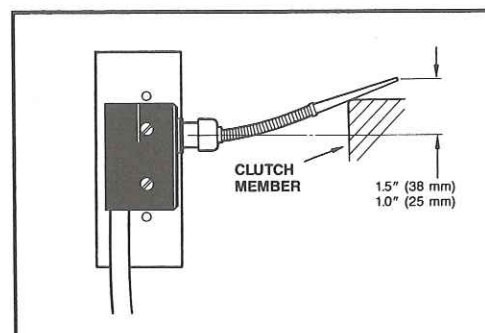

Fig. 26
3. Adjust the switch by moving the switch along the mounting bracket. The actuator arm should be deflected 1.0 - 1.5 in. (25 - 38 mm), measured at the top of the actuator, when the clutch pedal is in the up (clutch engaged) position. See Fig. 26.